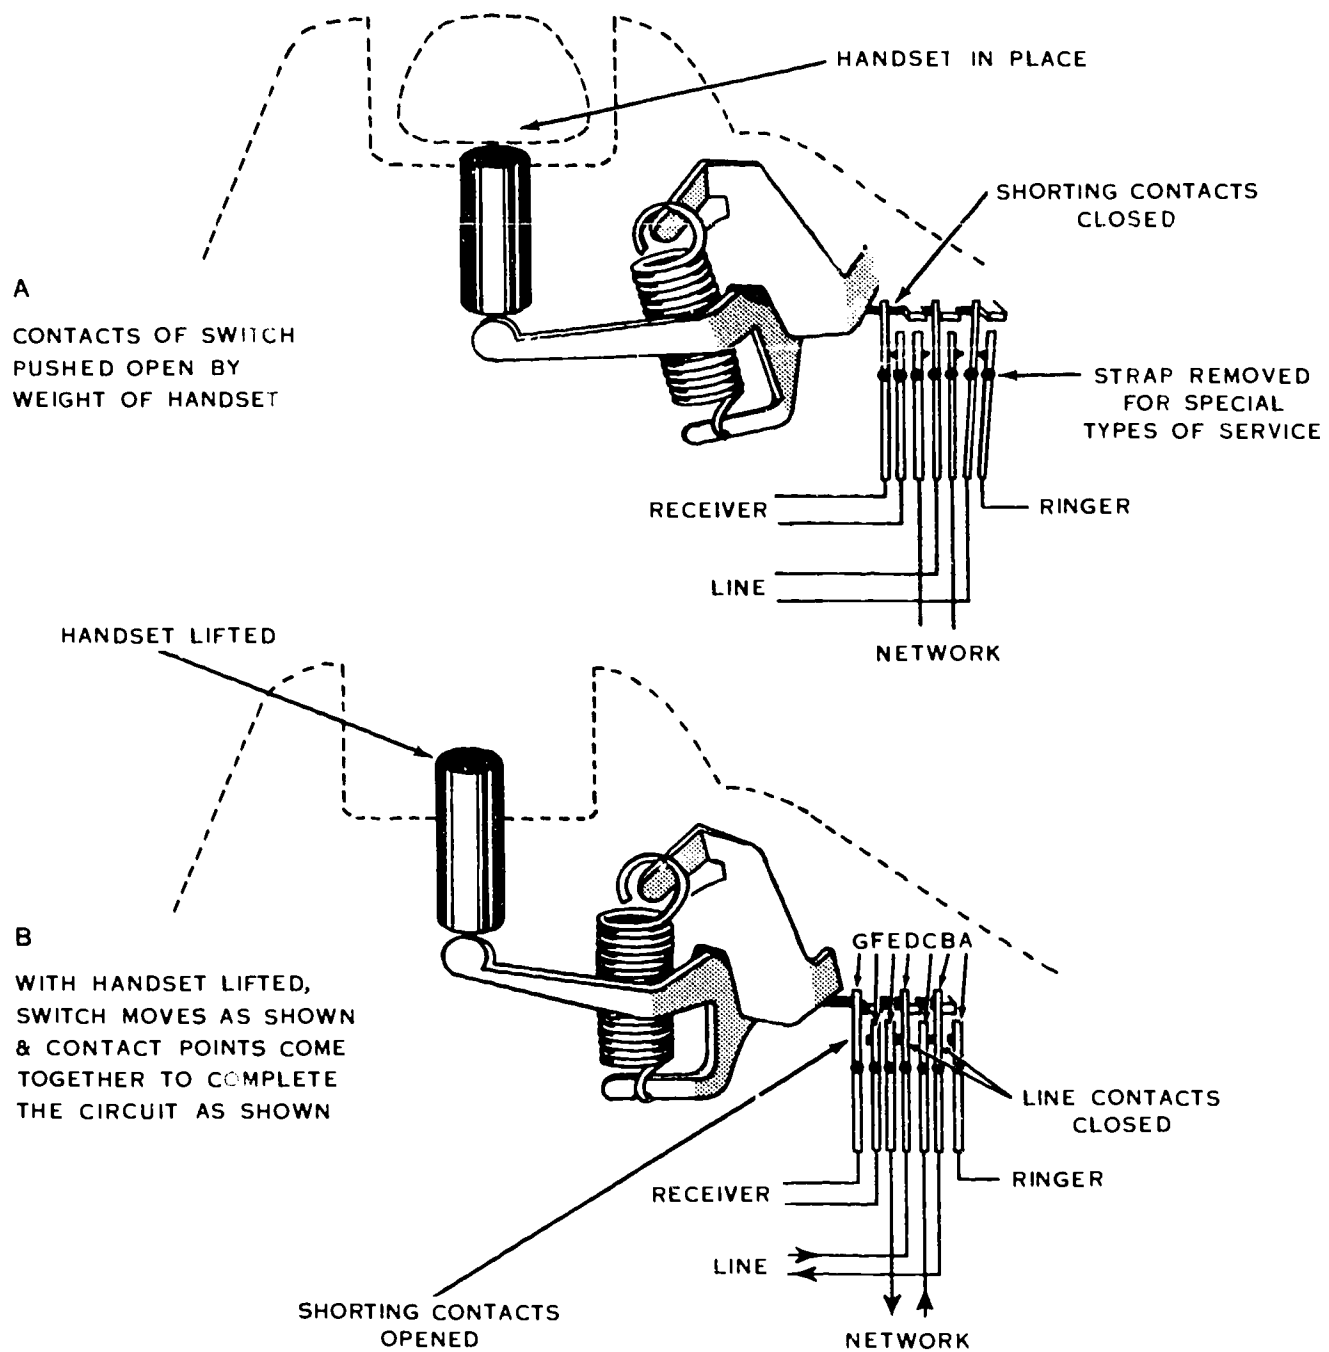

Figure 2-11. 500-type telephone cradleswitch (cut-away).
Hookswitch. Rivets attach the hookswitch mounting bracket to the telephone base plate. The switch assembly with its protective plastic housing is attached to the mounting bracket so that the switch control lever can operate its contacts. Figure 2-11 shows the contacts in two positions. In part A, they are in the position they assume when the handset is in place on its cradle; in part B, they are in the position they assume when you lift the handset.
In part B of figure 2-11, the shorting contacts (F and G) are open, thus removing the short from the receiver circuit. Also, the line to network contacts (B to C and D to E) is closed to connect the line to the network and telephone circuitry. The ringer-to-line contacts (A to B) are open. Note, however, that the ringer lead to contact A is not normally used in the ringer circuit. It is used only for special types of service.
6. On figure 2-11, what hookswitch contacts connect the telephone set mounting cord conductors with the network induction coil?